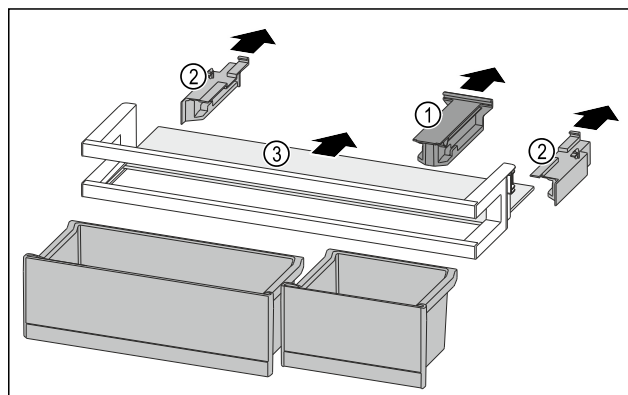

Fig. 88
- Pull off the retaining part Fig. 88 (1).
- Pull off the side part Fig. 88 (2).
- Remove the shelf Fig. 88 (3).